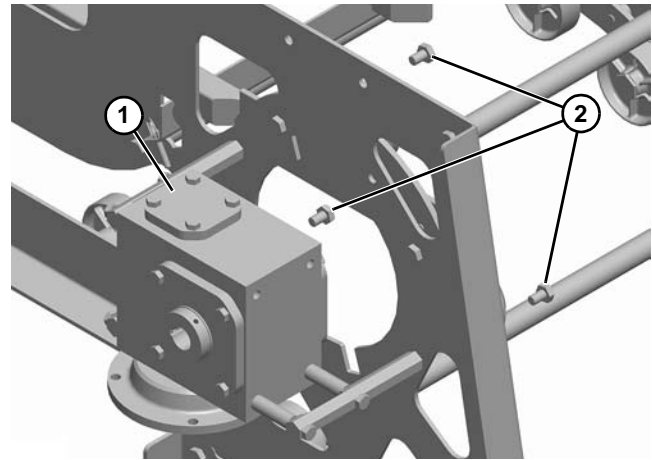

Figure 19
3. Install gear reducer (Figure 19, item 1) to the frame with three hex head cap screws (Figure 19, item 2).